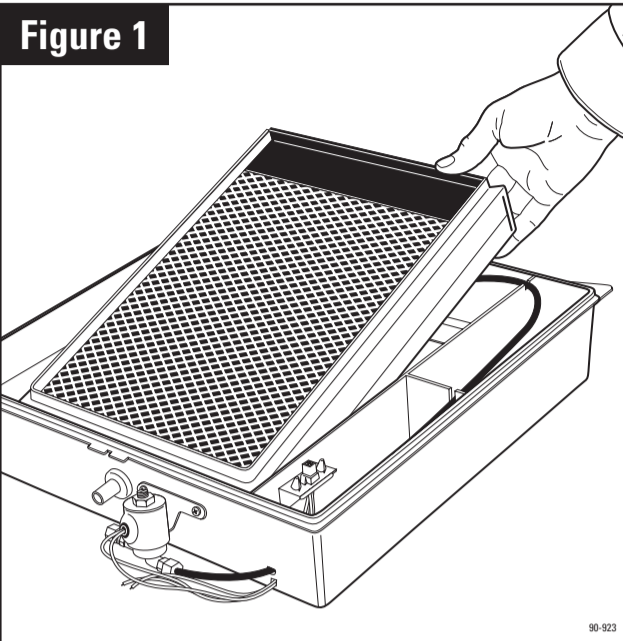

Figure 1
1. Detach the cover assembly by lifting the latch at the bottom. Remove the Water Panel® evaporator assembly by grasping at top and tipping out. See **Figure 1**.